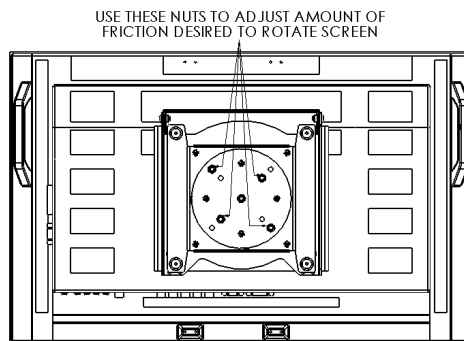

Figure 7
- Set desired amount of friction for rotating the screen by tightening or loosening the four nuts on the back of the CH-SMAC400. See Figure 7.